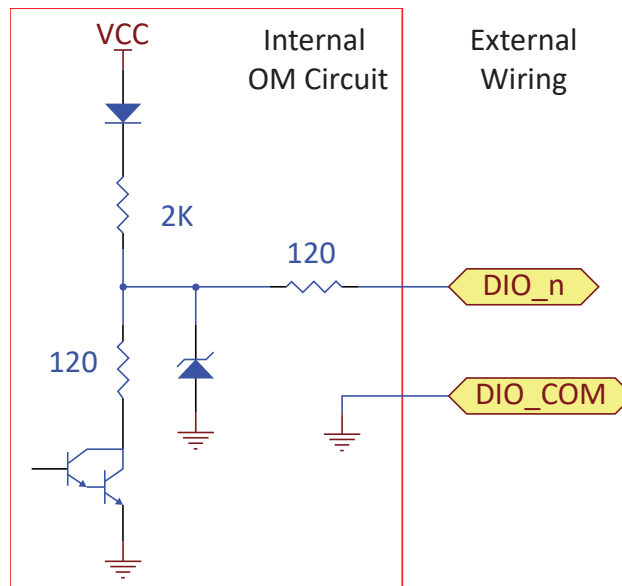

Figure 9
11.11.1 DIO outputs are compatible with IEC 61131-2 PLC high true PLC discrete inputs. Each DIO is pulled up to an internal 24V power supply by means of a $2.12K$ resistor which means the DIO is capable for delivering a high level output of $15V @ 3.3 mA$ (IEC 61131-2 compliant). No external power supply is required in this mode. Here is an example of a DIO being used as a PLC High True output. See *Figure 9*.